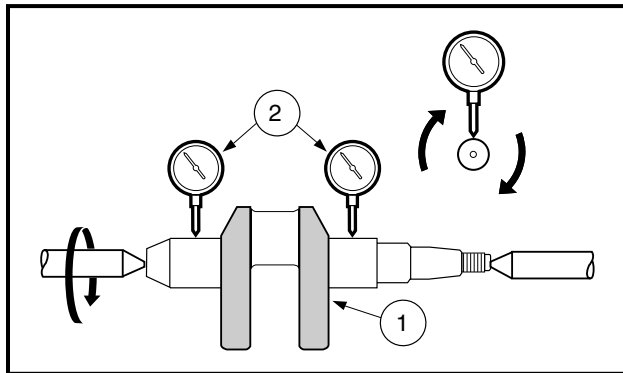

Figure 3-79 Check Crankshaft Alignment
- 8.2. Turn crankshaft (1) slowly and measure total indicated run-out at the location shown (**Figure 3-79, Page 3-37**).